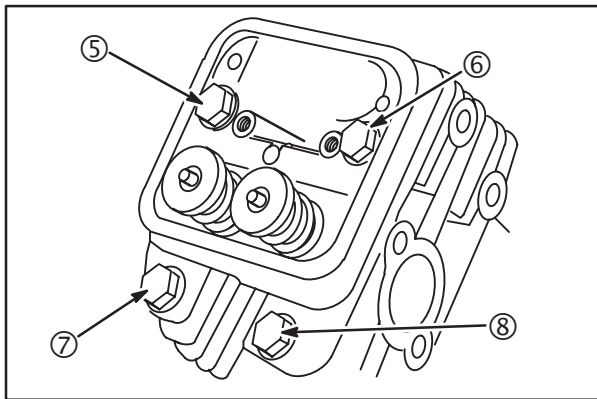

Fig. 6
3. Remove head bolts (5, 6, 7, 8) and cylinder head, Fig. 6. Discard cylinder head gasket.